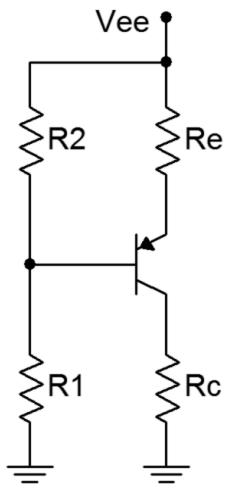

Figure 1
1. Consider the circuit of Figure 1 using $V_{ee} = 10$ volts, $R_1 = 10 \text{ k}\Omega$, $R_2 = 3.3 \text{ k}\Omega$, $R_e = 4.7 \text{ k}\Omega$ and $R_c = 5.6 \text{ k}\Omega$. Using the approximation of a lightly loaded “stiff” voltage divider, determine the theoretical base, emitter and collector voltages, and record them in Table 1 (Theory).
2. Build the circuit of Figure 1 using $V_{ee} = 10$ volts, $R_1 = 10 \text{ k}\Omega$, $R_2 = 3.3 \text{ k}\Omega$, $R_e = 4.7 \text{ k}\Omega$ and $R_c = 5.6 \text{ k}\Omega$. Measure the base, emitter and collector voltages and record them in the first row of Table 1 (Experimental).